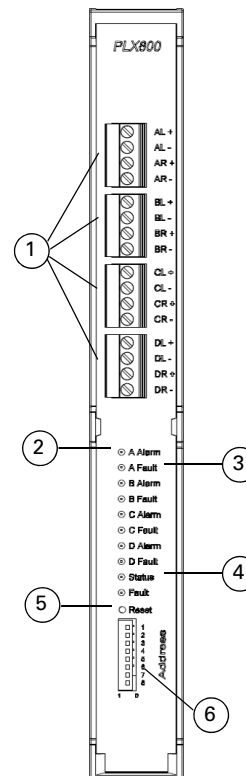

Fig. 23: PLX800 Loop Expansion Card
- 6 Set the addressing DIP switches to the chosen card address number (see Item 5 in Fig. 23). For a settings look up chart see Table 50.
- 7 From the card remove the loop connector plugs (Item 1 in Fig. 23).